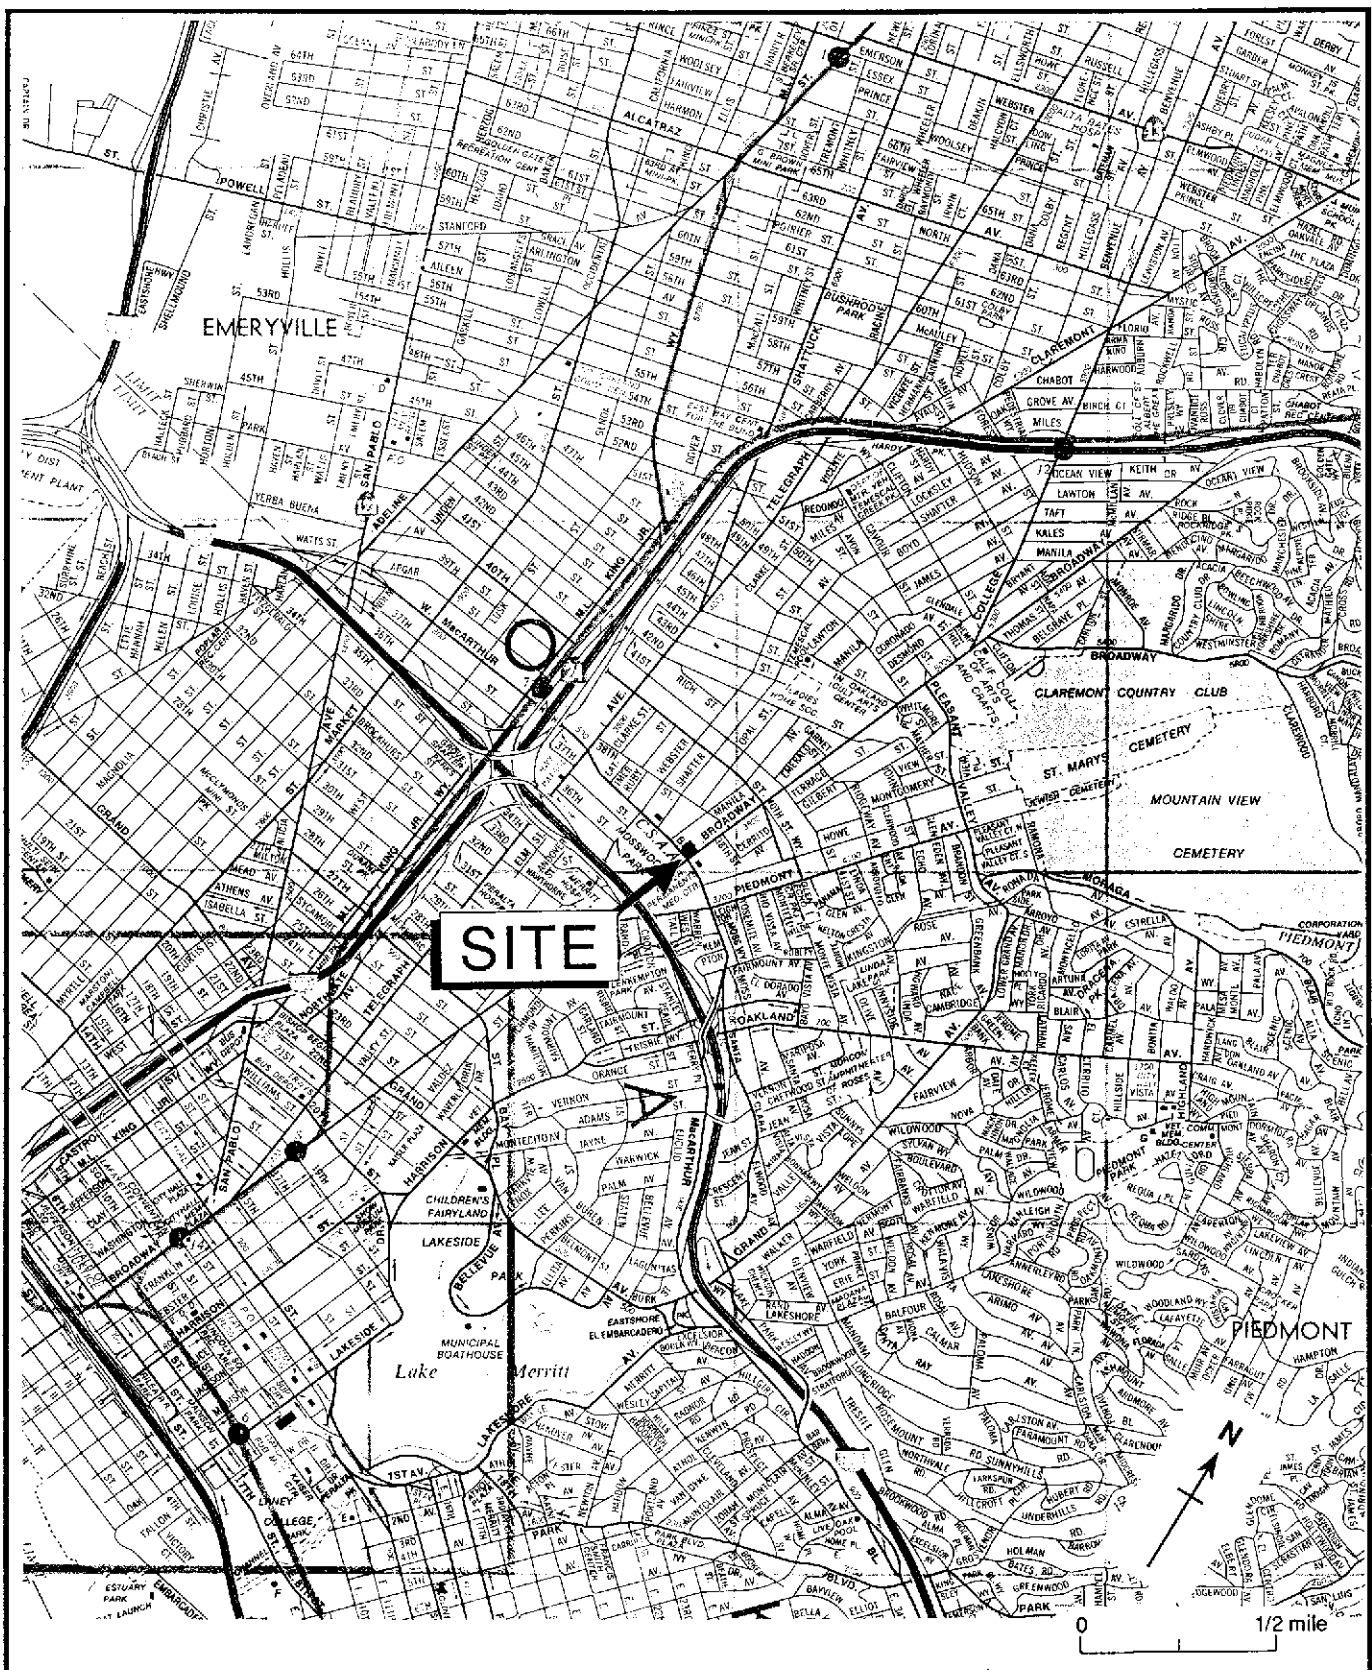
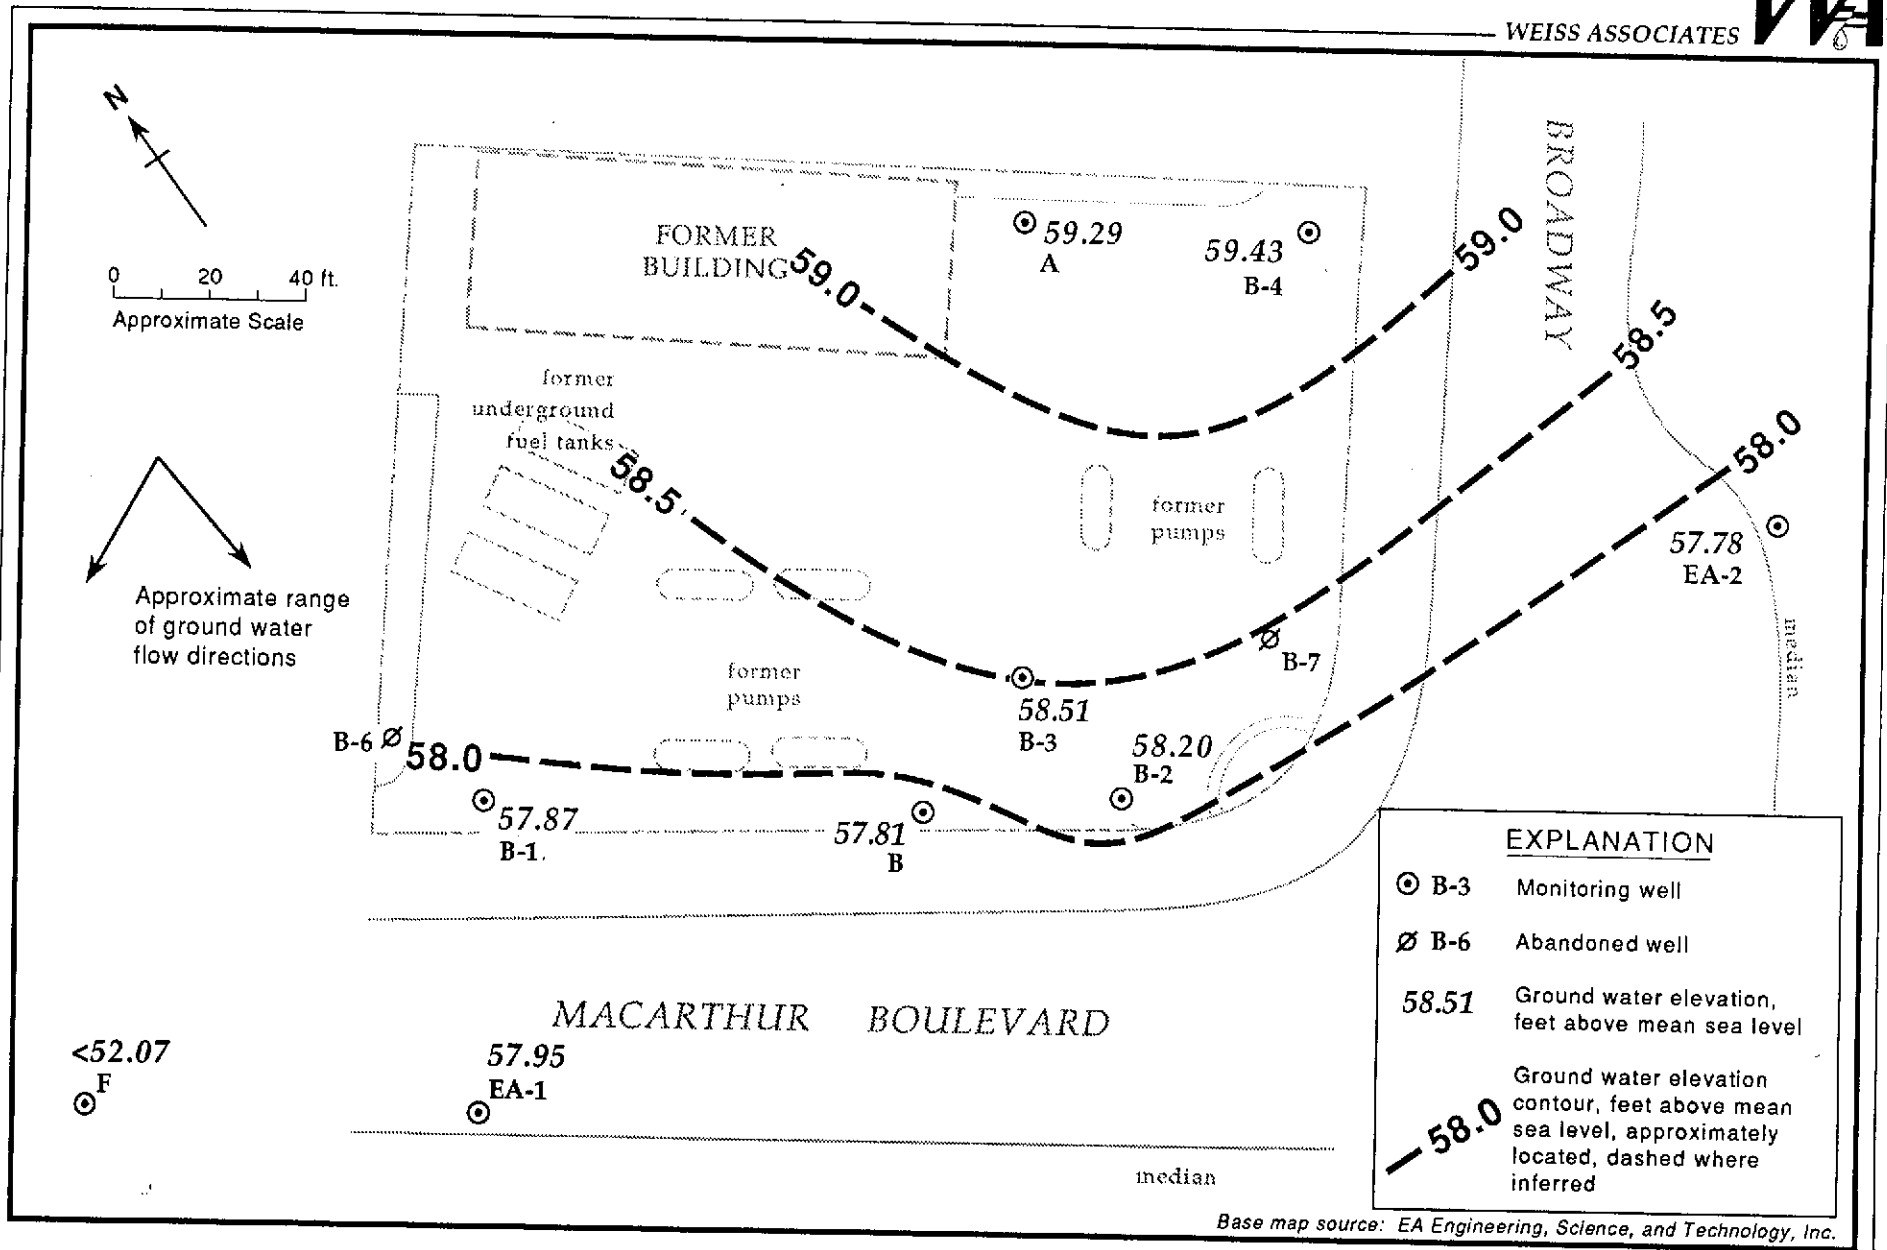

Figure 1. Site Location Map - Former Chevron Service Station #9-1026, 3701 Broadway, Oakland, California
Figure 2. Monitoring Well Locations and Ground Water Contours - August 21, 1991 - Former Chevron Service Station #9-1026, 3701 Broadway, Oakland, California
As you requested, Weiss Associates (WA) is providing this Ground Water Monitoring Report for the site referenced above (Figure 1). WA sampled the ground water monitoring wells (Figure 2) on August 21, 1991, in accordance with the requirements and procedures of the California Regional Water Quality Control Board - San Francisco Bay Region and local regulatory agencies.
The top-of-casing elevation, depth to ground water and the ground water elevation for each well is presented in Table 1. The ground water elevation contours and ground water flow direction are shown on Figure 2.